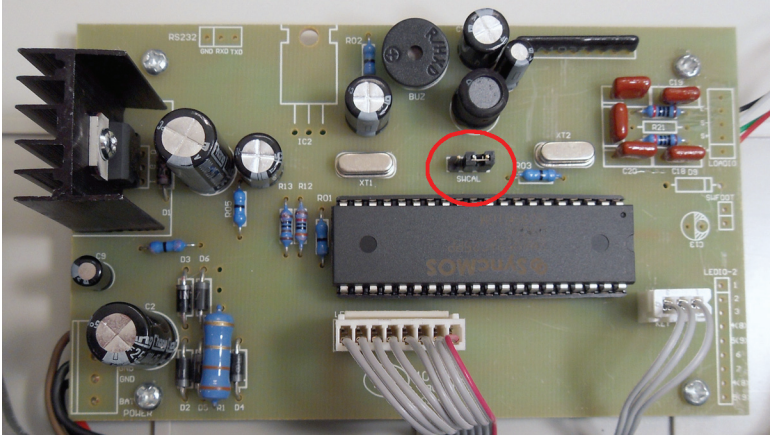
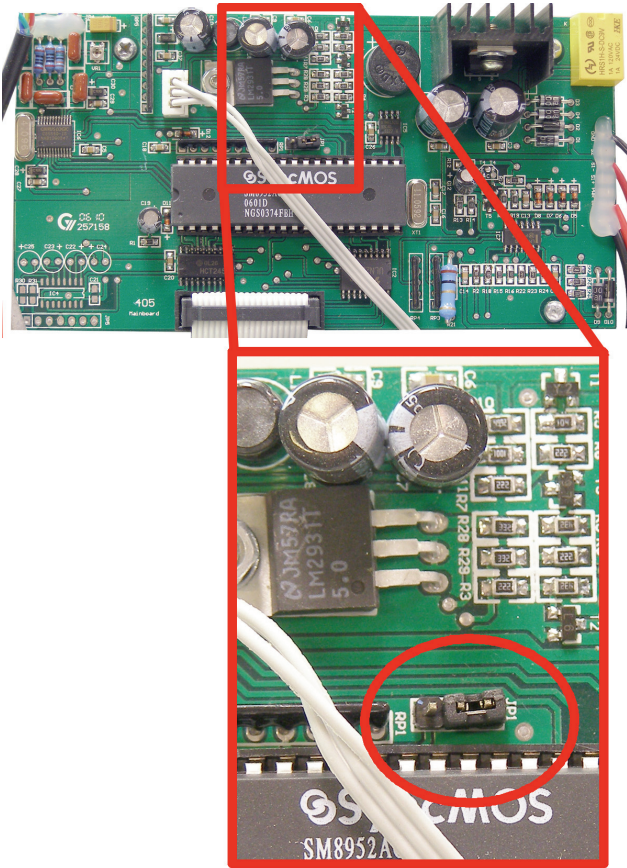
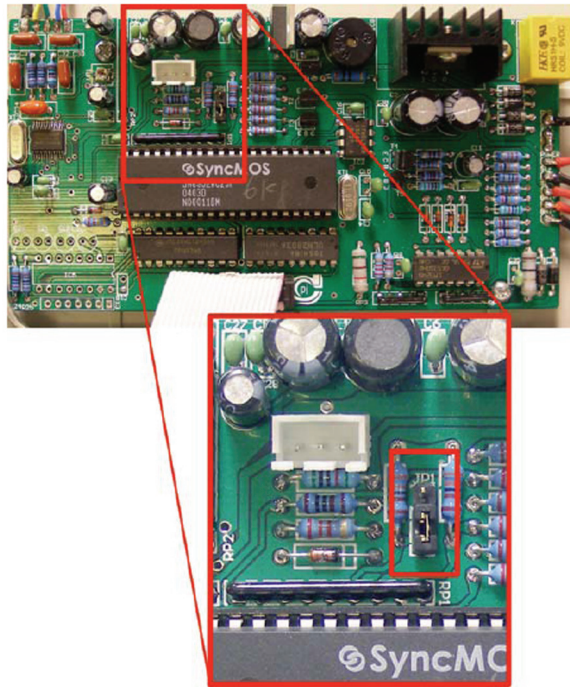

Figure 1.1 Current main PC board with jumper circled
Figure 1.2 Older version of the main PC board
Figure 1.3 Oldest style main PC board
4. Turn the scale over again and carefully remove the top case from the base. Figure 1.1 shows the current main board and the calibration jumper (SWCAL) circled. Figure 1.2 shows the older version of the main board and the calibration jumper (JP1). The jumper is shown inside the red oval. The oldest version of the main board is shown in Figure 1.3.
Figure 1.1 shows the jumper in the calibration unlocked position. Move the jumper to the other position to lock calibration.
The jumper shown in Figure 1.2 is in the 'calibration unlocked' position. The scale can be calibrated with the jumper on the two pins on the right side. Pull the jumper up and move it to the left two pins to lock calibration
The jumper shown in Figure 1.3 is inside the small red rectangle. It is shown in the 'calibration locked' position. The scale cannot be calibrated with the jumper on the two bottom pins. Pull the jumper up and move it to the top two pins to unlock calibration